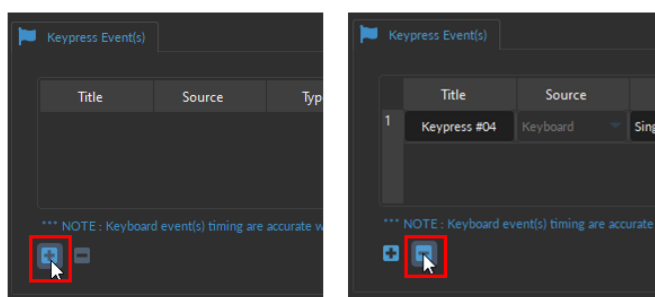

Figure 7.23: Adding and Removing Keypress Events
To add a new **Keypress Event**, select the + sign at the bottom of the window (Fig. 7.23, left). To remove a Keypress, use the - button (Fig. 7.23, right).
- **NOTE:** Selecting the + button (without clicking the *Add* button or the *Close* button of the *Channel Configuration* window) will **automatically** add the Keypress Event channel at the **bottom** of the Acquisition View window, below the video feed (Fig. 7.23).